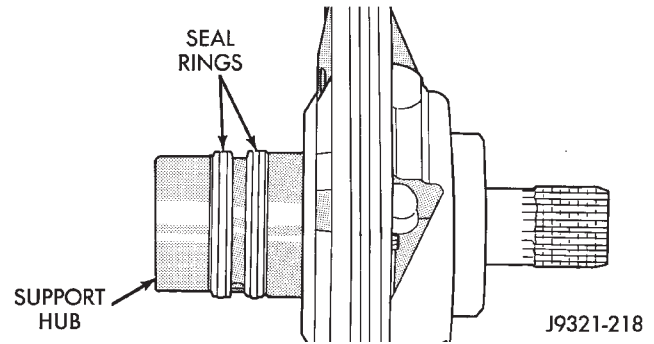

Fig. 156 Hub Seal Ring Position
(6) Install new thrust washer on hub of reaction shaft support. Lubricate washer with transmission fluid or petroleum jelly.
(7) If reaction shaft seal rings are being replaced, install new seal rings on support hub (Fig. 156). Lubricate seal rings with transmission fluid or petroleum jelly after installation. Squeeze each ring until ring ends are securely hooked together.